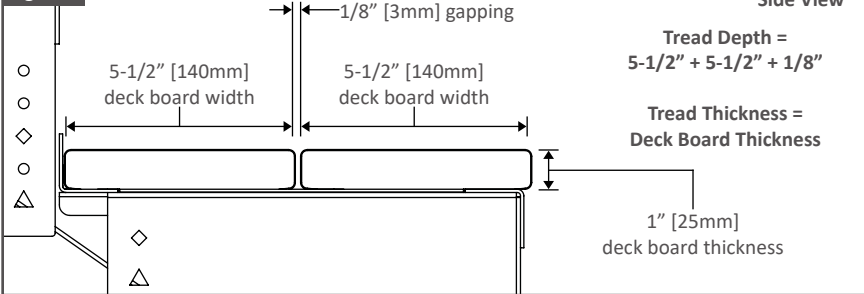

Fig. 108
6. Input determined tread Depth (11.125) into the stair calculator "Rise and Tread: Tread Depth" section. As shown in Fig. 108.